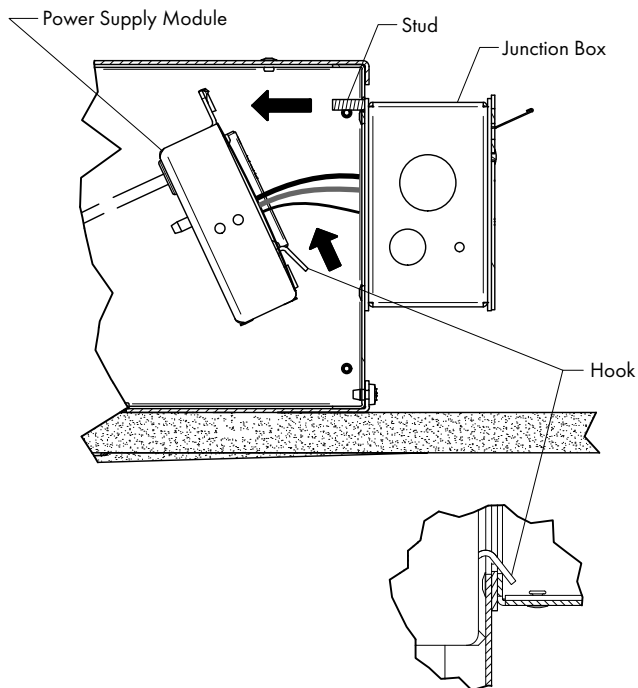

FIG 8.3 Disengage Power Supply Module
STEP 2 Tilt & lift Power Supply Module to disengage - **FIG 8.3**.